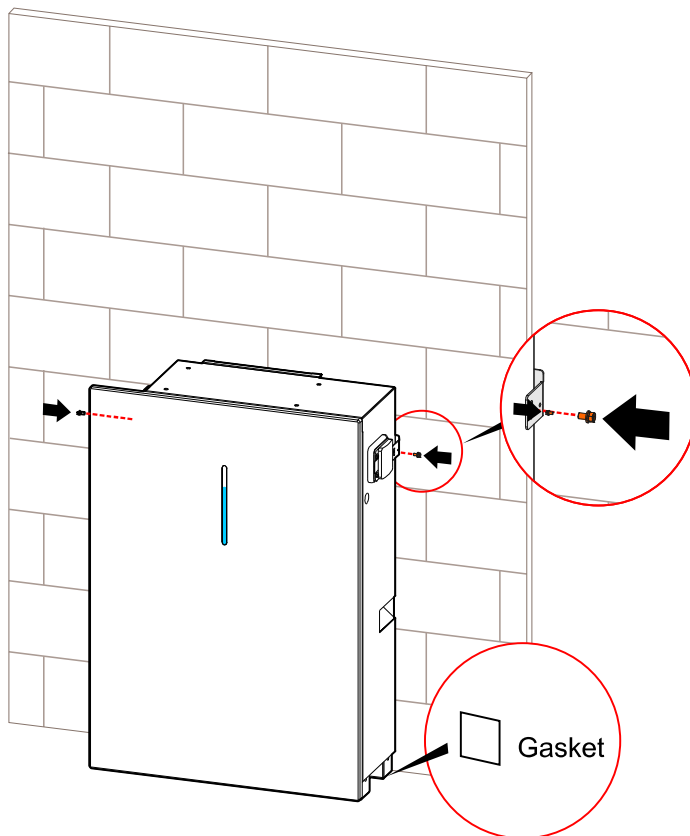

Figure3-12 Tighten the wall bracket
Step 8 Tighten the wall bracket and the battery pack with screw M5, as shown in Figure3-12.